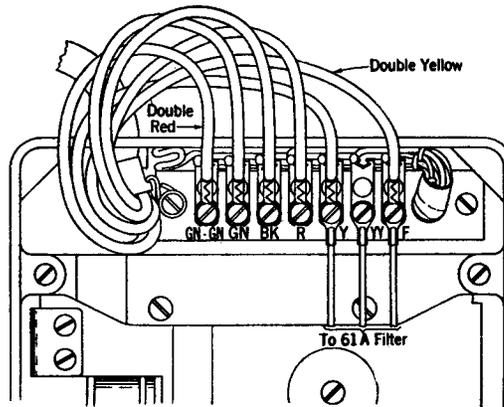

Fig. 4—Cording of D-97807 Dial
5.01 The cording of the D-97807 Dial is shown in Fig. 4. The excess length of free conductors in the mounting cord should be folded over into the base before the base plate is put on the dial.